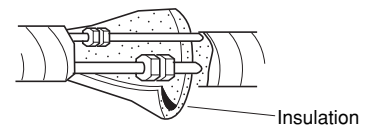

Fig. 3-127
- (1) Pass the tubing and drain hose into the rear of the indoor unit. Provide sufficient length for the connections to be made. Next, bend the tubing with a pipe bender, and connect them.
- (2) After performing a leak test, wrap the refrigerant tubing and drain hose together with insulating tape, as shown in the figure at right. (Fig. 3-127) Then fit the tubing into the tubing storage space in the rear of the indoor unit and clamp in place.
- (3) Adjust the indoor unit so that it is securely installed onto the rear panel.